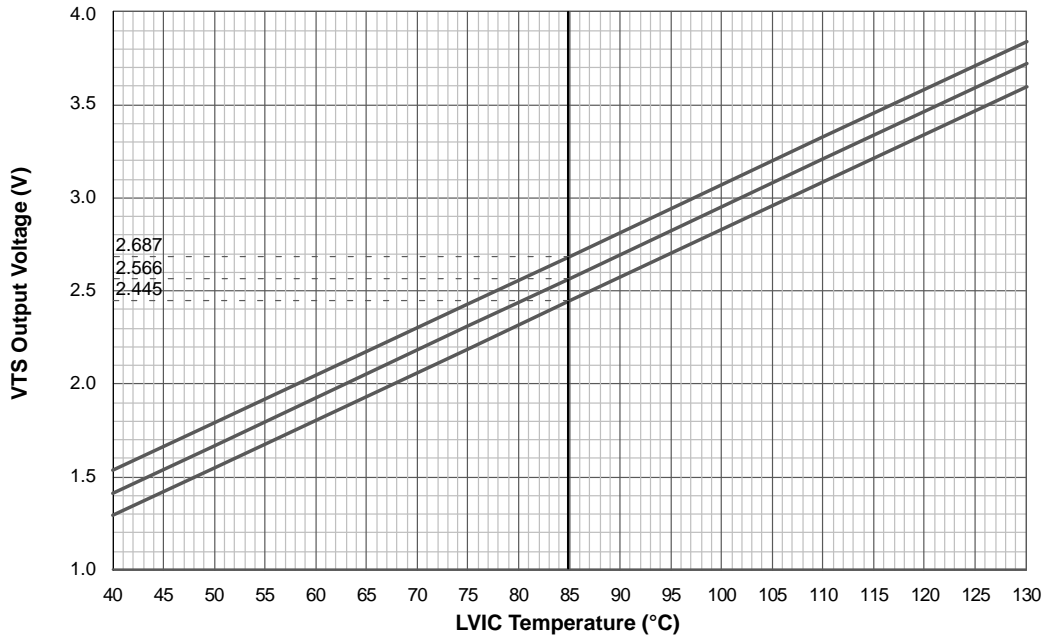
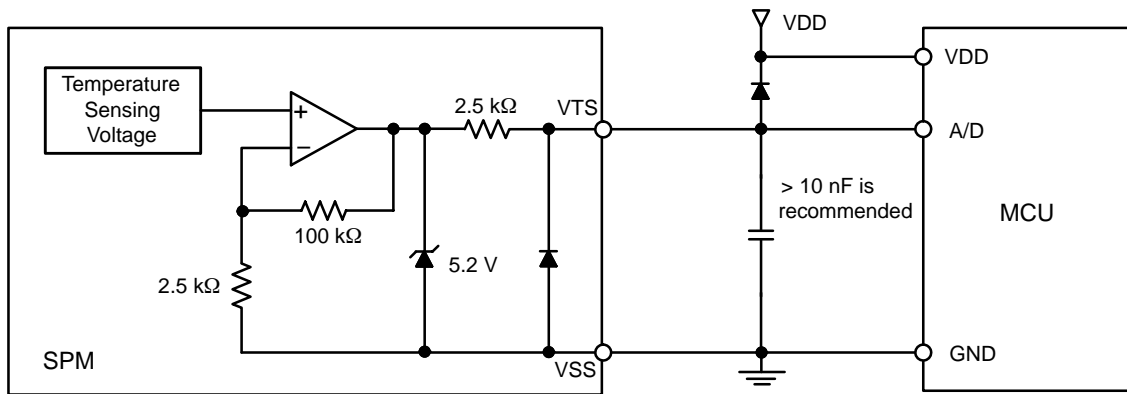

Figure 6. Temperature Profile of VTS
Figure 7. Internal Block Diagram and Interface Circuit of VTS
| VTS                 | Voltage Output for LVIC Temperature Sensing Unit | VDD(L) = 15 V, TLVIC = 25°CSee Figure 6 and 7 (Note 8) | 0.909                  | 1.030 | 1.151 | V    |    |
- TLVIC is the temperature of LVIC itself. VTS is only for sensing temperature of LVIC and cannot shutdown IGBTs automatically. The relationship between VTS voltage output and LVIC temperature is described in Figure 6. It is recommended to add a ceramic capacitor of 10 nF or more between VTS and VSS (Signal Ground) to make the VTS more stable as described in Figure 7. Refer to the application note for this products about usage of VTS.